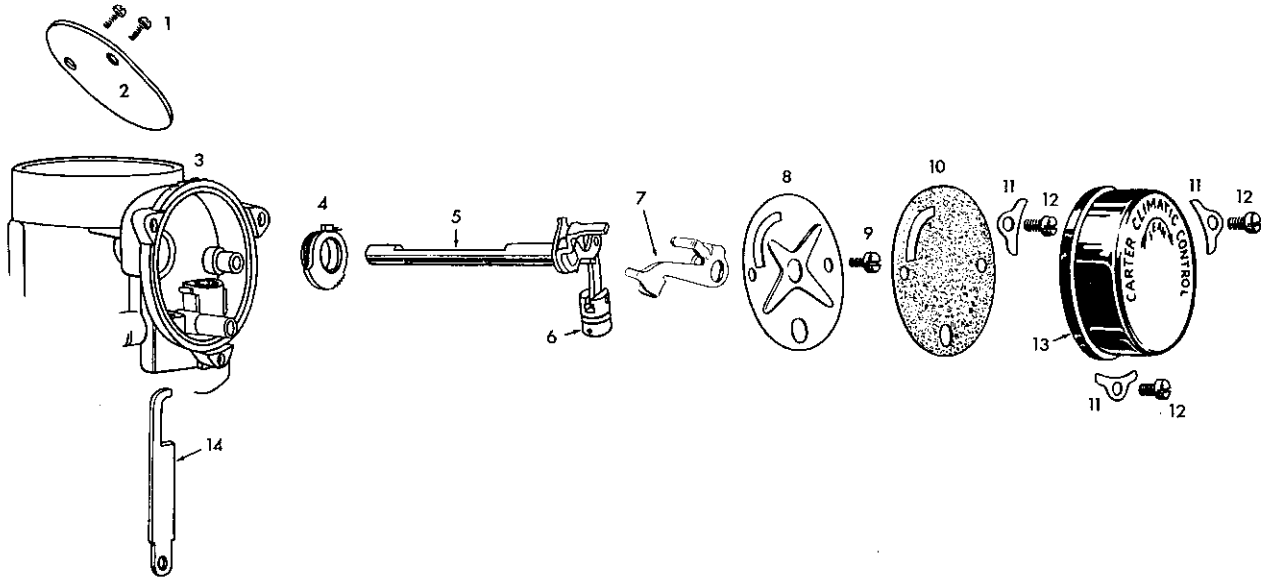

FIG. 399
Remove the climatic control housing (13, Fig. 399) with thermostat and gasket (10). Remove the screw (9) which holds the baffle plate to the housing and remove the baffle plate (18), choke trip lever (7); and fast idle link (13).